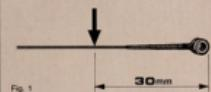

Fig. 1
1. Unscrew and remove nut clamp pressure pad ⑯
3. Locate string stopper bolt ⑩ and remove string.
4. Cut the tail end off of new string about as shown in Fig. 1.